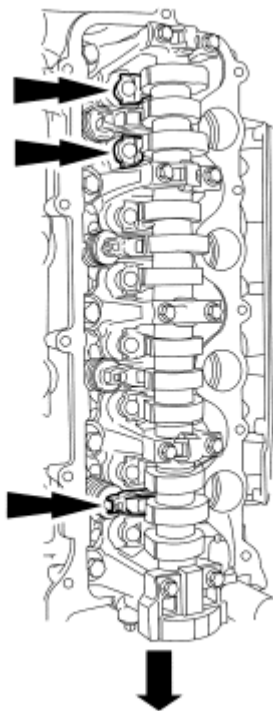

Fig. 234: Identifying RH Cylinder Head Camshaft Roller Followers And Bolts
34. Remove only the 3 roller followers shown in the **Fig. 234** from the RH cylinder head.